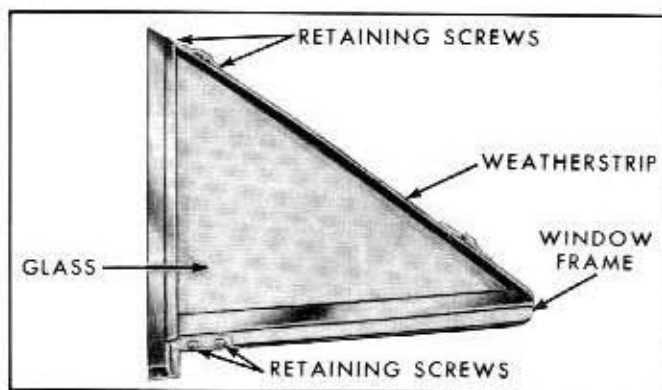

Fig. 13C-11—Stationary Glass—(60C-8053)
3. Disassemble the window frame and install a new glass if required. When installing the glass apply sealer between the glass and the weatherstrip. See figure 13C-11.